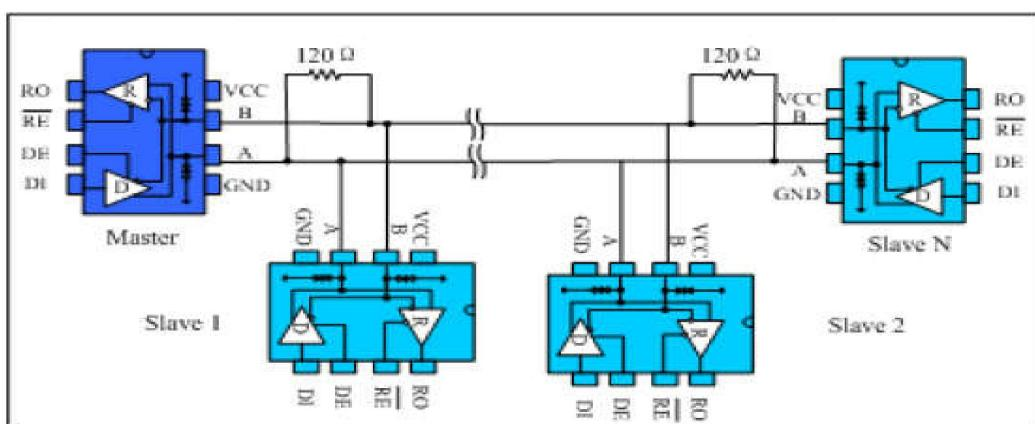

Fig. 9 Bus-type RS485 half-duplex communication network
4.1 Bus networking: The MAX1487CSA-TD RS485 transceiver is designed for bidirectional data communication on multi-point bus transmission lines. Figure 9 shows a typical network application circuit. These devices can also be used as linear repeaters with cables longer than 4000 feet. In order to reduce reflections, terminal matching should be done at both ends of the transmission line with their characteristic impedance, and the length of the branch wires other than the main line should be as short as possible.